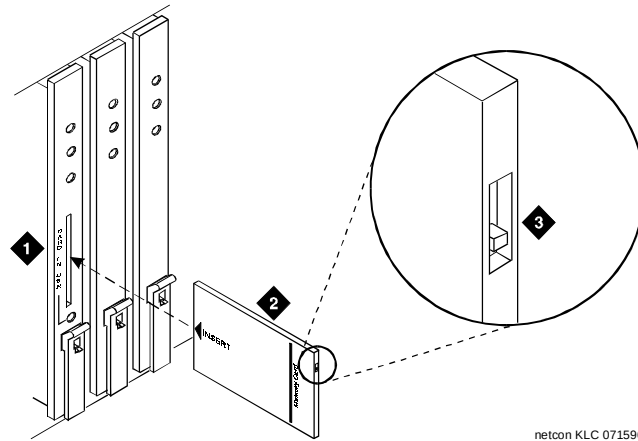

Figure 2-5. Record Switch on DEFINITY Memory Card
2. Verify that the switch on the outside edge of the memory card is in the downward position to record (see Figure 2-5).